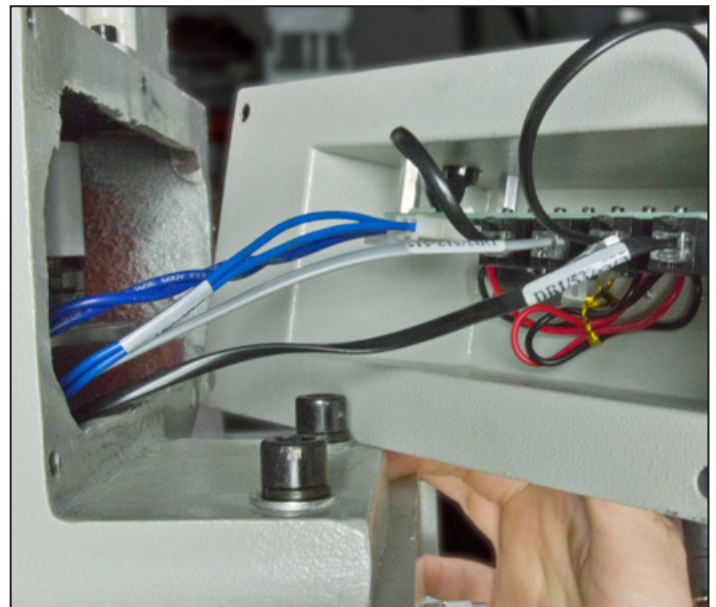

Figure 28
1. Remove the Power Drawbar electrical housing (see **Figure 28**).